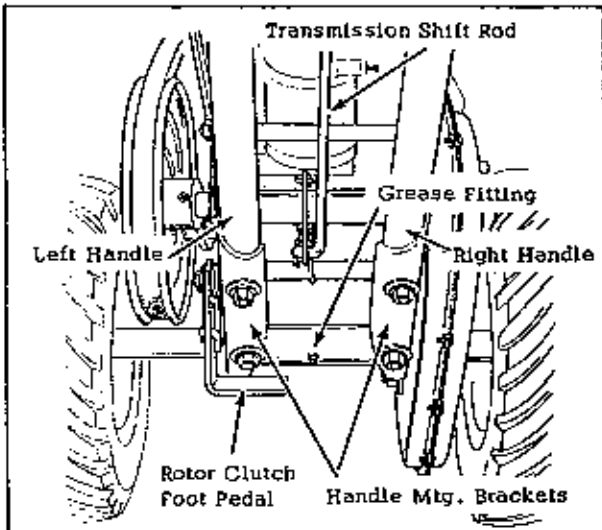

Fig. 1
1. Fasten the right and left handles to the mounting brackets as shown in Figure 1. Use hex capscrews, flat washers, lockwashers, and hex nuts and tighten securely in place.
The 23" Rotary Snow Plow is equipped with 4 grease fittings that require occasional lubrication with a general purpose automotive grease. The location of these fittings is shown in Figures 1, 3, 5 & 7. The 26" Sno Away has an additional fitting on the 2-Speed axle cover.